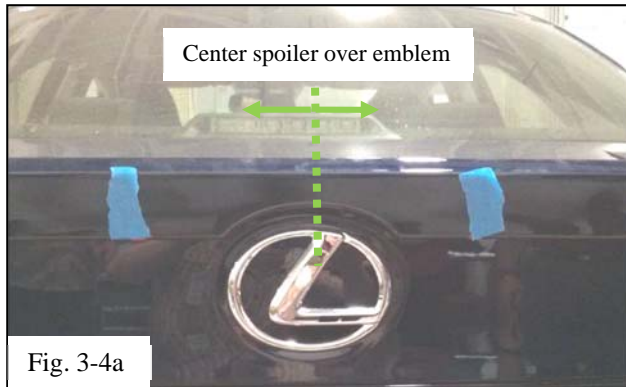

Fig. 3-4a
- (e) Place the spoiler onto the trunk lid and carefully position it so that it is centered left to right on the trunk lid by measuring the distance between spoiler edge and trunk lid each on each side (Fig 3-4a and 3-4b).
- (g) Verify that the spoiler is centered to the trunk lid (Fig 3-4a and 3-4b), then push forward and downward on the spoiler (Fig 3-6) and begin removing the tape liners from the rear edge of the spoiler in the sequence shown (Fig 3-7). Push downward on each tape strip to ensure good wet-out is achieved and the gap between spoiler and trunk lid at the rear edge is minimized.